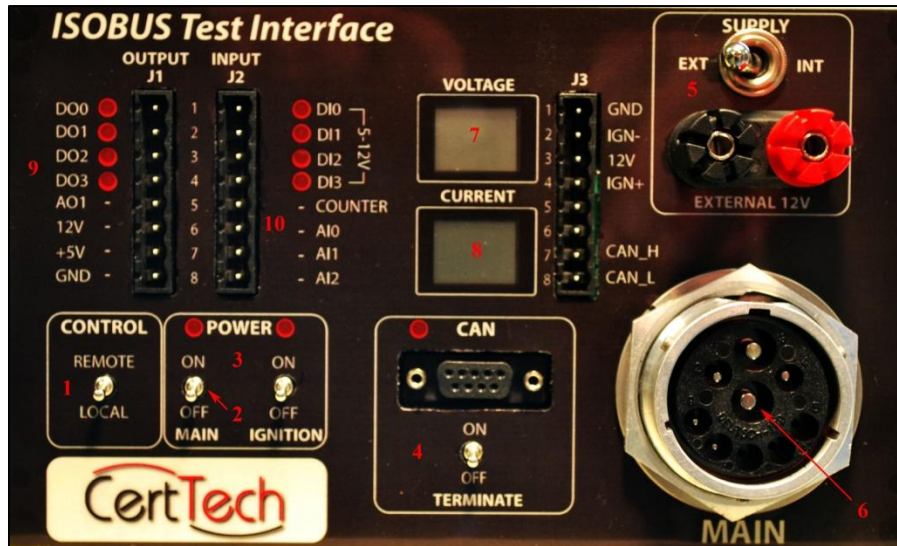

Figure 2 Top Panel view
Outputs (See Figure 2 items 7, 8 and 9):
- 4 Open collector (TTL, LVTTTL, CMOS Compatible) digital output lines – item 9
- 1 analog output at 12 bits software timed – item 9
- 12V (5A max) and 5V (200mA max) constant supplies – item 9
- Displays Voltage and Current on 2 3.5 digit LCD meters - items 7 and 8
Inputs (See Figure 2 items 6 and 10):
- 4 – 12V max digital input lines – item 10
- 1 – 32bit, 5 MHz and 2.0V high to 0.8V low input voltage counter – item 10
- 3 – 12 bit, 10 kS/s, 144kΩ and +/-10V analog inputs. - item 10
- MAIN and In-Cab connectors used to interface with the ECU. – item 6
The ITI unit has 5 manual toggle switches (See Figure 2):
The connectors J1-J3 are located on the front panel (See Figure 2).